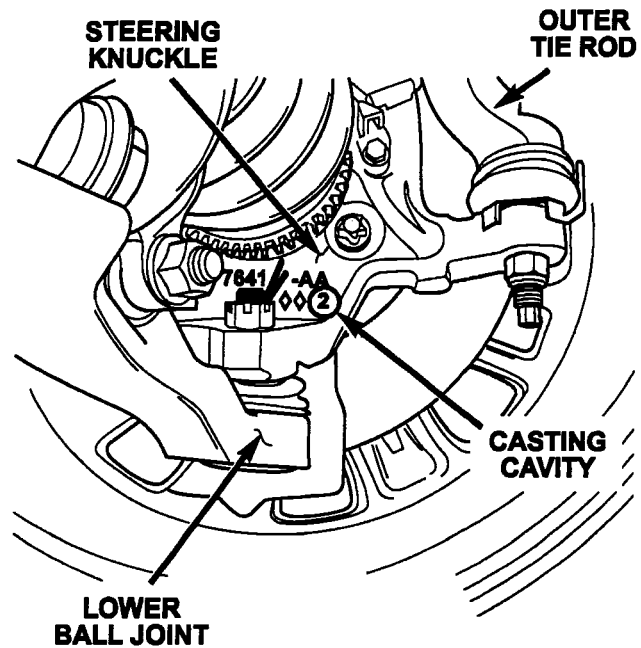

Figure 1
2. Inspect the right steering knuckle casting cavity identification code (Figure 1).